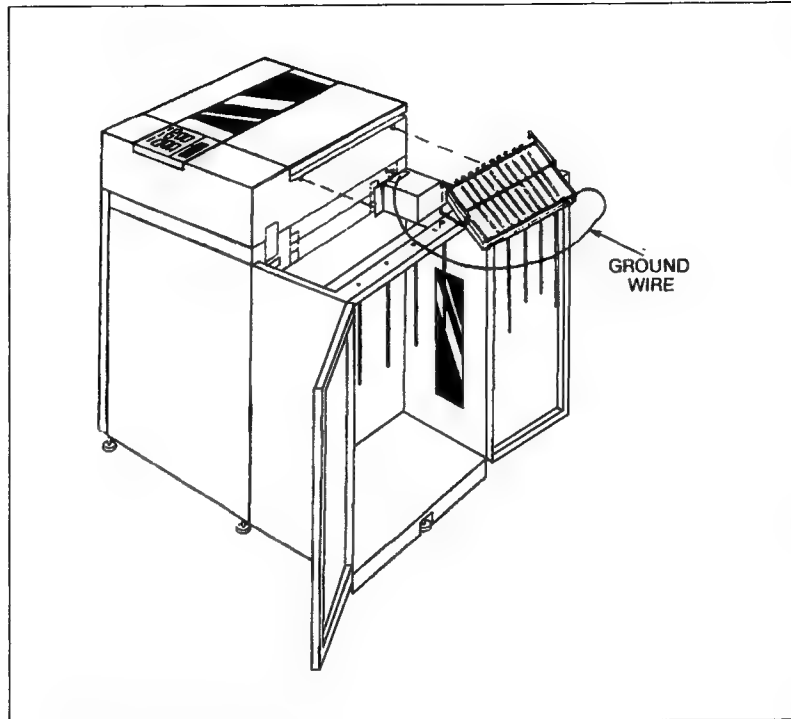

Figure 2-32. Attaching Wire Form
- e. Attach the wire form. Hook the wire form into the holes on the top cover (Figure 2-32). Make sure the four chains hang freely.